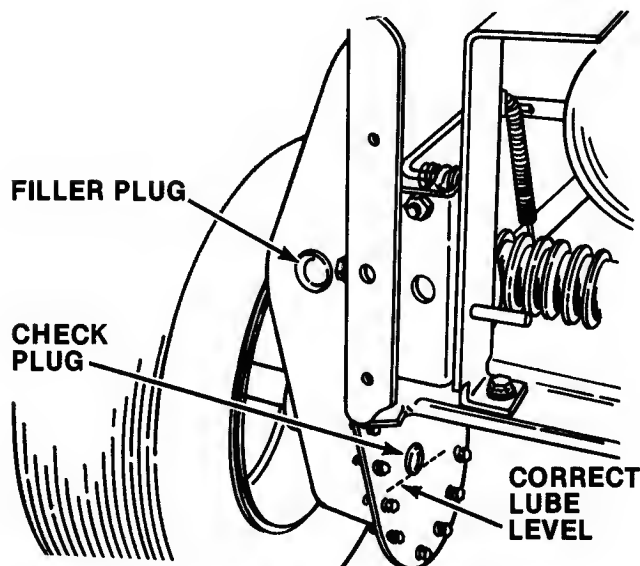

FIG. 8 - TRANSMISSION LUBE LEVEL
- TRANSMISSION DIFFERENTIAL: Remove check plug on inside of unit shown in figure 8 to check level of oil. Add Snapper #00 grease as needed thru upper fill hole to bring the level up to the lower edge of the check plug hole. Reinstall plugs after servicing.